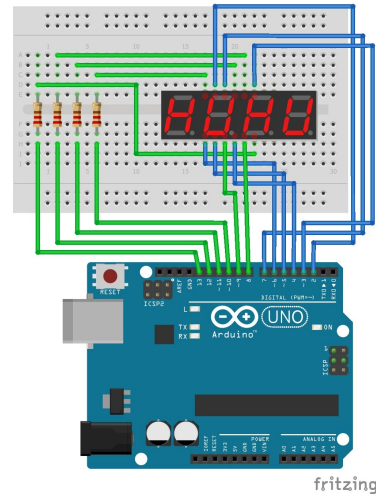

Fig. 1. Schematic of the circuit
- Wire-up the system as the schematic of Figure 1 on the Experimental Data section.
The schematic of the circuit can be seen on the Figure 1. From the schematic it can be seen that the pins used for this circuit are the pins from 2 to 13. From the schematic of the Arduino UNO¹, it can be seen that the only output ports used on the original circuit are the PORT B and PORT D, since the pins from 2 to 7 correspond to the PORT D and the pins from 8 to 13 correspond to the PORT B. After that, the values of PORT B and PORT D required to represent each digit were computed and the results can be seen on the Table I.